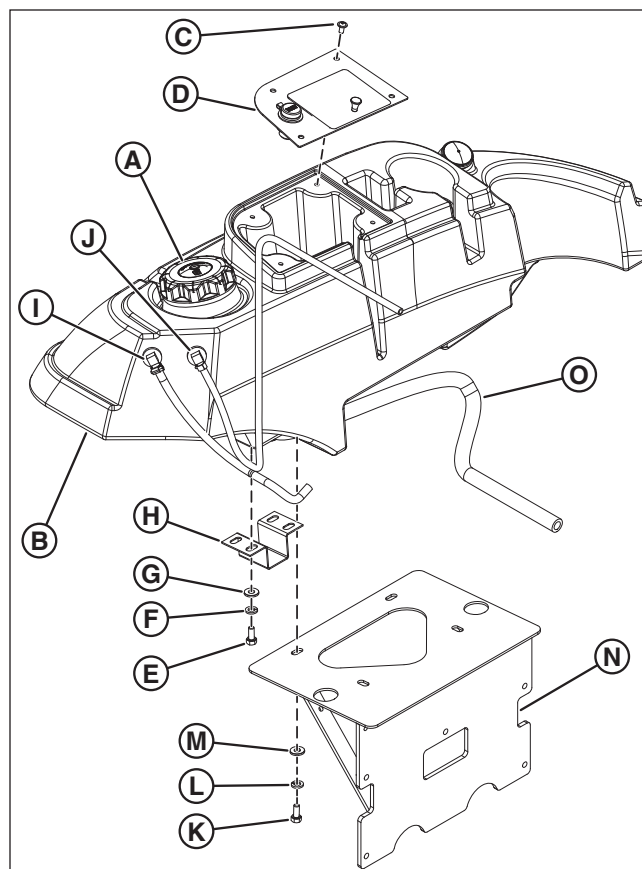
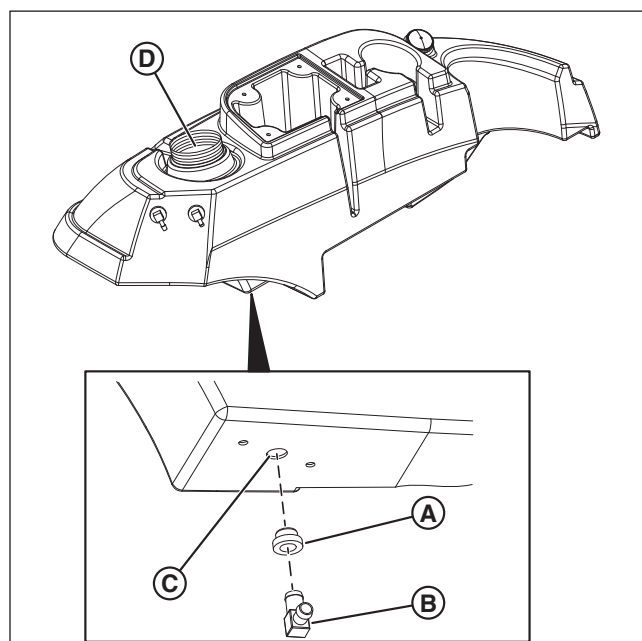

Figure 2. Removing Components
Figure 3. Grommet and Fitting
1. Remove the diesel fuel cap (A, Figure 2) from the tank (B).
3. Remove the screws (C) that hold the control panel (D) to the tank. Remove the control panel from the tank.
4. Remove the two (2) bolts (E), lock washers (F) and washers (G) that secure the diesel fuel supply elbow guard (H) to the diesel fuel tank.
6. Disconnect the return line (I) and vent line (J) from the diesel fuel tank. Have a suitable container ready to capture any diesel fuel that make exit the return line.
7. Remove the four (4) bolts (K), lock washers (L), and washers (M) that secures the diesel fuel tank to the mount (N).
10. Have a suitable container ready to capture the diesel fuel that will drain from the tank. Remove the pickup up line (O) from the diesel fuel tank and drain the diesel fuel into your container.
11. Remove the grommet (A, Figure 3) and fitting (B) from the bottom of the diesel fuel tank. Discard the grommet.
1. Install a new grommet (**A**, **Figure 3**) and the existing fitting (**B**) into the bottom of the tank.
2. Connect the fuel supply line (**O**, **Figure 2**) to the fitting.